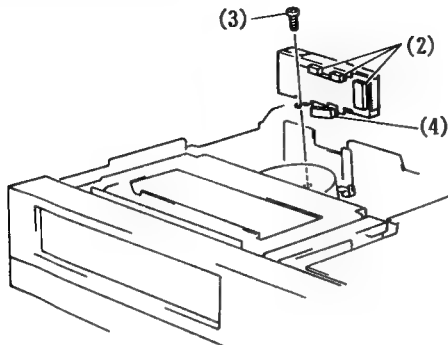

Fig. 4-11 Pre/Rec Amp Circuit Board
7. Pre/Rec Amp Circuit Board (Fig. 4-11)